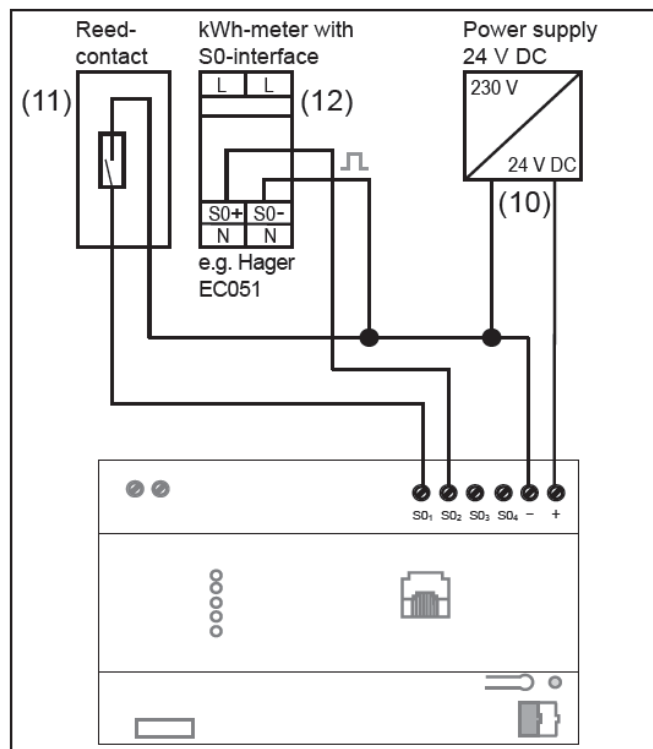

Figure 2: S0-connection diagram
When using the S0-interface (figure 2):
- Connect 24 V DC to the terminal for S0 pulse input power supply (figure 2, 10).
- Connect the S0 pulse input devices (figure 2, 11 - 12) to the S0 pulse input terminals as shown in figure 2.